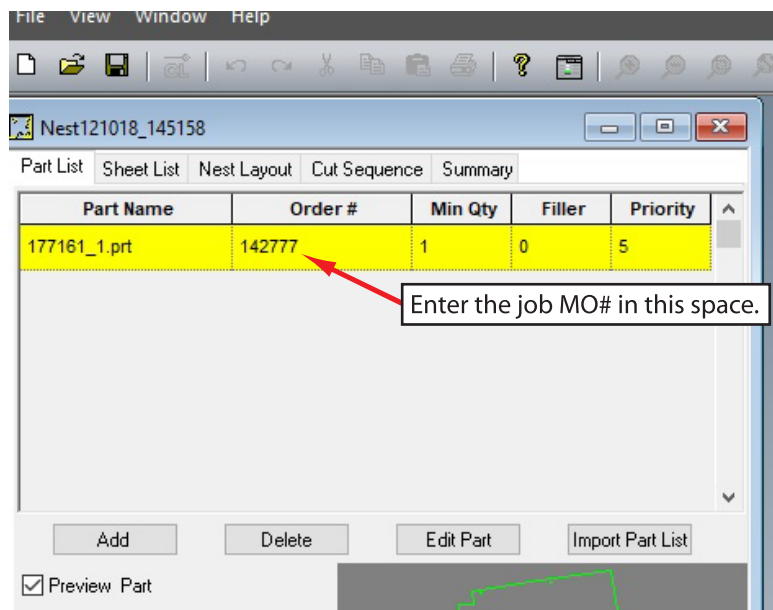

Fig.19
- 24) Next, be sure to type in the MO number of the job you are working on in the "Order#" block located in the nest window. This will be the number that will be etching on the parts as well as listed on the nest that is given to the laser so they know what job the parts go to. See Fig.19 below.